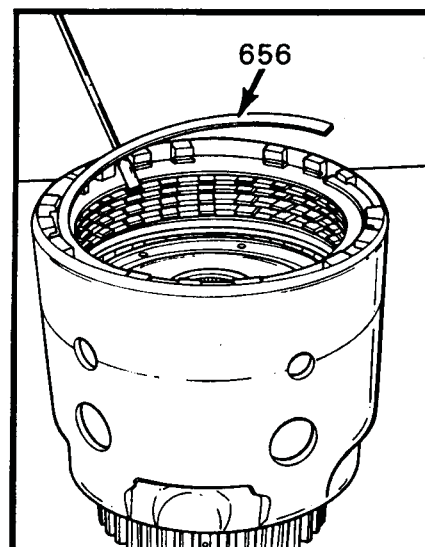

Figure 138
7. Install the 3-4 clutch backing plate snap ring as shown in Figure 138 using a screwdriver.